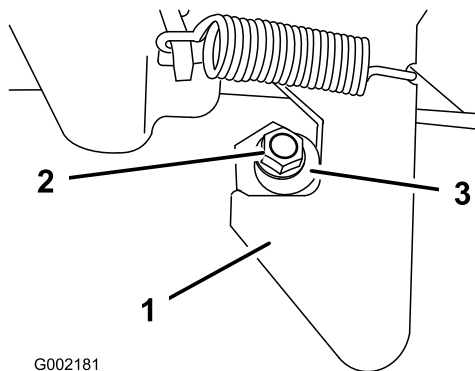

Figure 15
1. Loosen the nut on the end of the latch post (Figure 15).
2. Turn the latch post clockwise until it is snug against the latch and then tighten the nut (Figure 15).